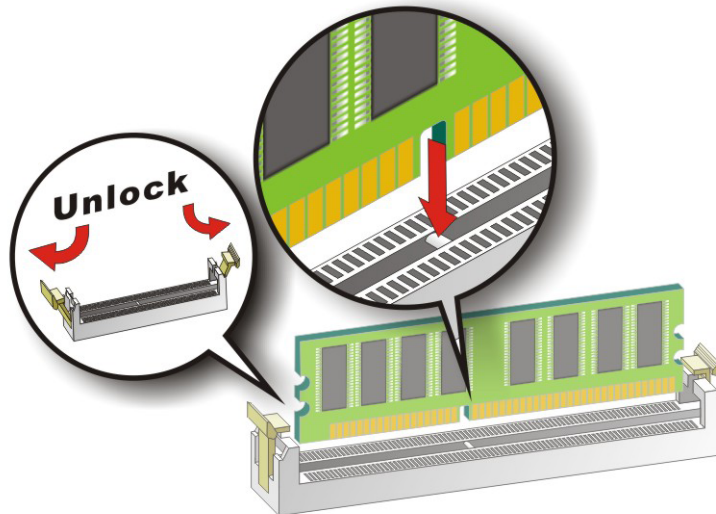

Figure 5-1: Installing a DIMM
To install a DIMM into a DIMM socket, please follow the steps below and refer to **Figure 5-1**.
Step 1: **Open the DIMM socket handles.** The DIMM socket has two handles that secure the DIMM into the socket. Before the DIMM can be inserted into the socket, the handles must be opened. See **Figure 5-1**.
Step 2: Align the DIMM with the socket. The DIMM must be oriented in such a way that the notch in the middle of the DIMM must be aligned with the plastic bridge in the socket. See **Figure 5-1**.
Step 3: Insert the DIMM. Once properly aligned, the DIMM can be inserted into the socket. As the DIMM is inserted, the white handles on the side of the socket will close automatically and secure the DIMM to the socket. See **Figure 5-1**.